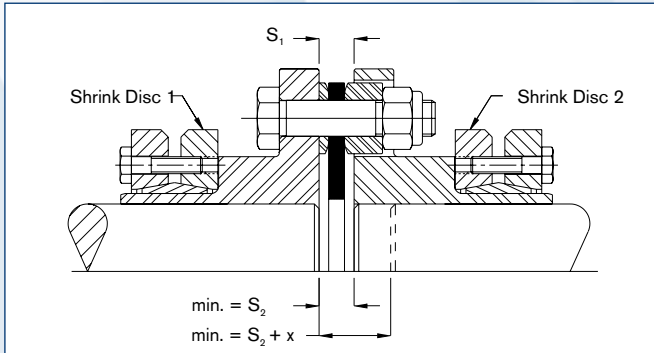

Fig. 3: Single Flexing
1. Bring equipment into the best visual alignment possible. Position the hubs axially so that the distance between shaft ends is within min. and max. dimensions S1 (Single Flexing) and S2 (Double Flexing) for standard couplings. See Figures 3 and 4. For non-standard couplings, check corresponding coupling drawing.